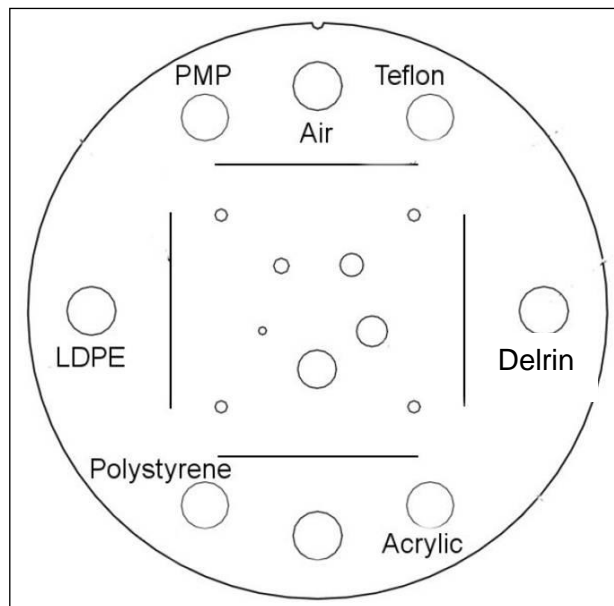

Figure 45: Catphan Phantom
7. Using mouse, right click on the ROI and select 7 x 7 mm. Use mouse to drag and placed ROI within the homogenous substance of the Catphan Phantom specify in the data table (see Figure 45)